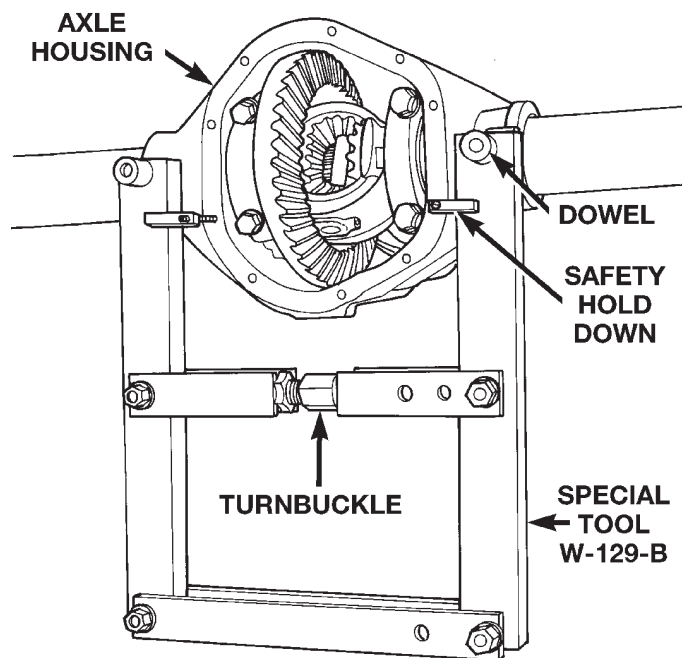

Fig. 24 Install Axle Housing Spreader
- (6) Loosen the differential bearing cap bolts.
- (7) Position Spreader W-129-B, utilizing some items from Adapter Kit 6987, with the tool dowel pins seated in the locating holes (Fig. 24). Install the holddown clamps and tighten the tool turnbuckle finger-tight.